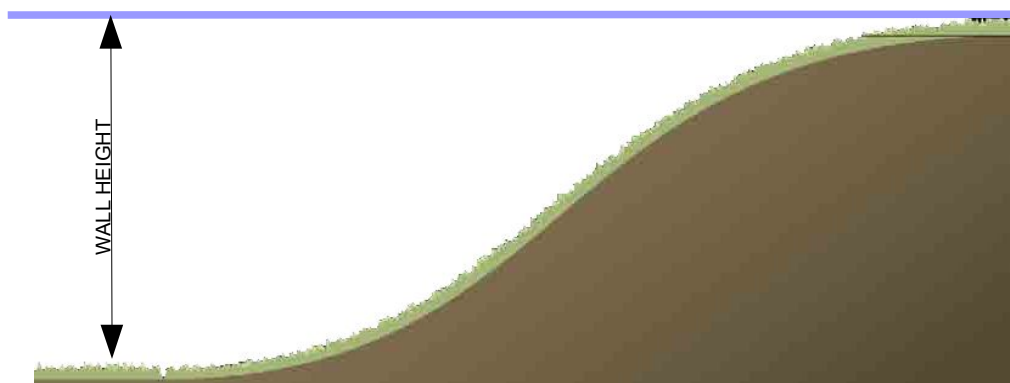

FIG 1
- **Wall Height: Determine the maximum wall height. (see figure1) Maximum Wall Height (figure 1) -**